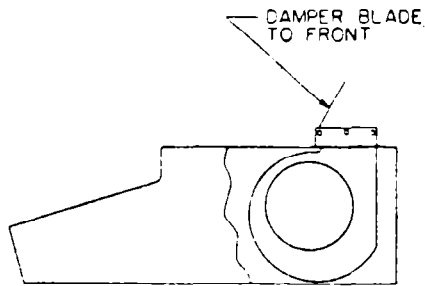
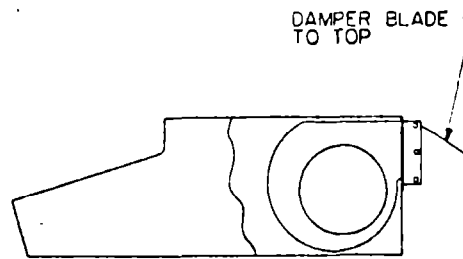

FIGURE 5
FIGURE 6
9. Attach the damper as shown in Figure 5 for vertical discharge or Fig. 6 for horizontal discharge.